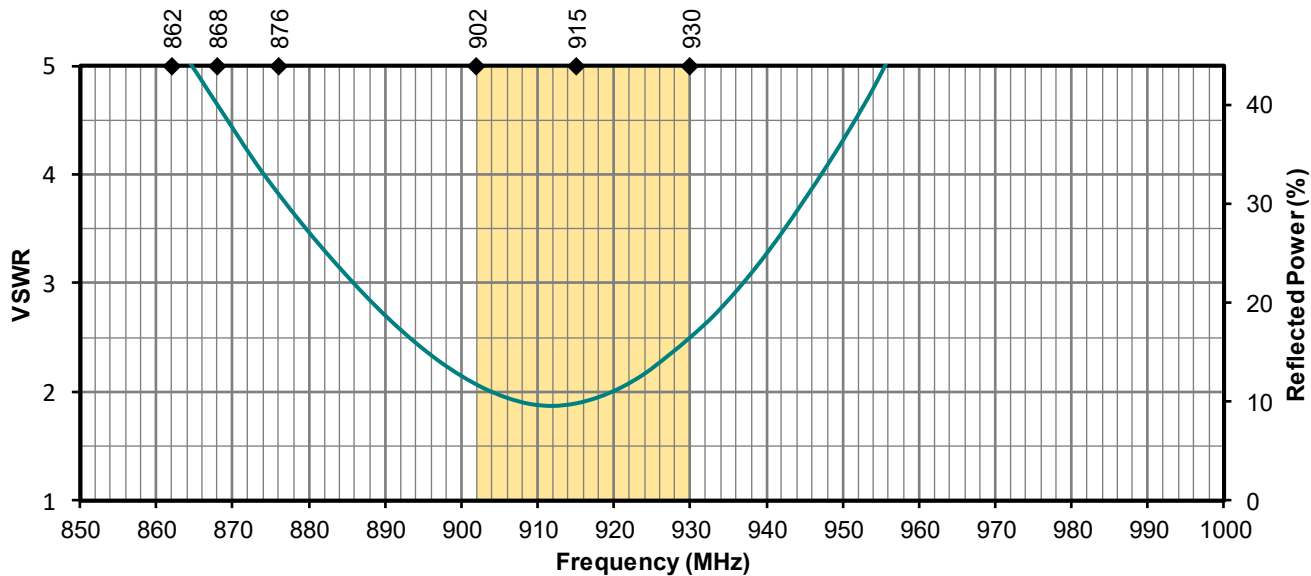

Figure 4. Antenna VSWR, with ground plane
**Figure 4** provides the voltage standing wave ratio (VSWR) across the antenna bandwidth. VSWR is a function of the reflection coefficient, which describes the power reflected from the antenna back to the radio. A lower VSWR value indicates better antenna performance at a given frequency. Reflected power is also shown on the right-side vertical axis as a gauge of the percentage of transmitter power reflected back from the antenna.